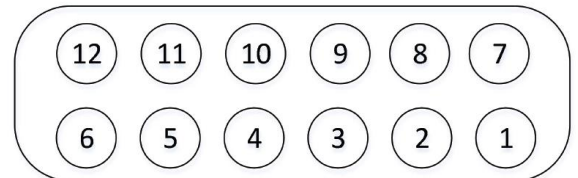

Figure 3: Pin layout of D9 connector
- Connect DC power and control signals according to **Table 1** & **Figure 3**.